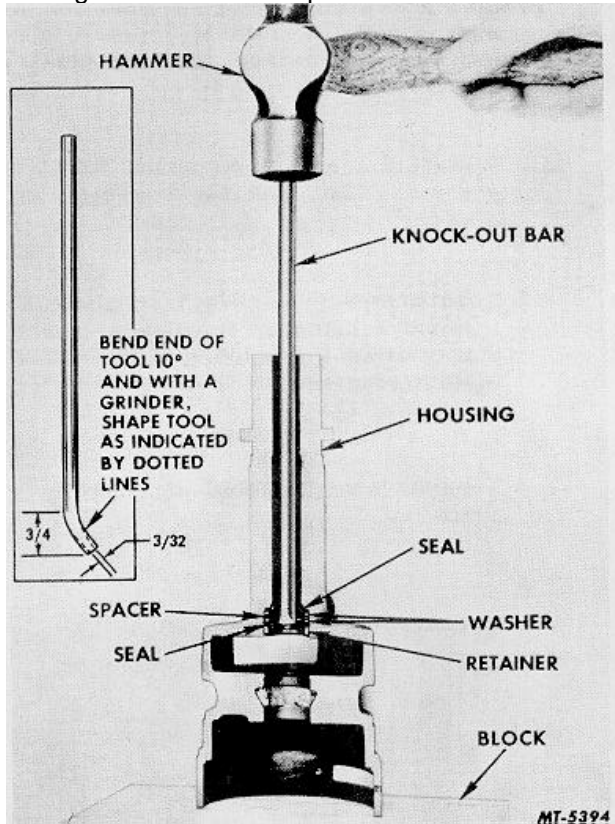
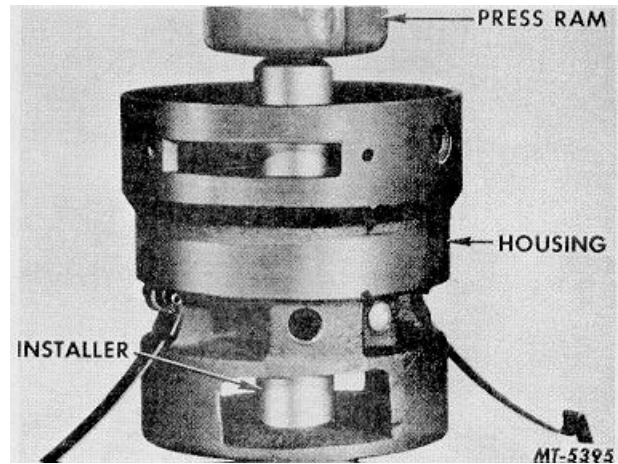

Fig. 50 Removal of Seals, Washers, Spacer And Retainer from Distributor Housing (Housing cut away for illustrative purposes)
Fig. 51 Pressing Seal Retainer into Housing Using Installer SE-1955-8
6. Remove vacuum seals, washers, spacer and retainer from the housing using a knock-out bar as shown in Fig. 50. This bar can be made locally from cold rolled steel 5/16" diameter x 10" long and shaped to dimensions
as shown in inset (Fig. 50). It should be noted when removing the seals, washers, spacer and retainer using this method that the seals will be damaged and must be replaced.
7. Slide the lower oil seal, washer, spacer, washer and upper oil seal in the bore of the distributor housing until they rest against the shelf at the bottom of the counterbore. The lower oil seal has the lip facing downward while the upper seal lip faces upward (Fig. 50). Then position the retainer on top of upper seal and with installer (SE-1955-8, Fig. 51) press retainer into housing to a dimension of 3.615 - 3.617" from top of retainer to top edge of distributor housing.